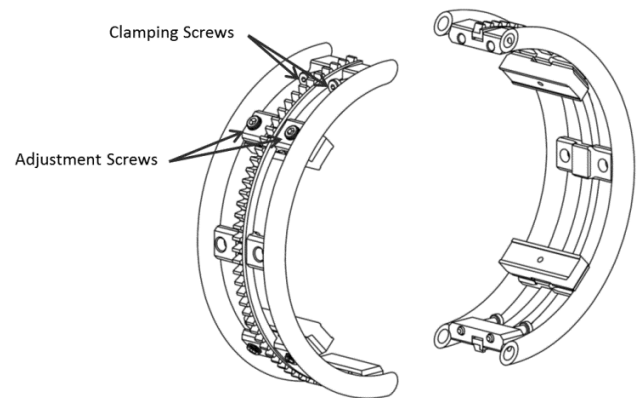

FIGURE 4 – ASSEMBLY STEP 1
1. After separating into two segments, retract each shoe completely by turning both adjustment screws (see Figure 4 – Assembly Step 1) evenly with a 1/4" hex key until the shoe is flush with the cross brace. Do not over tighten.